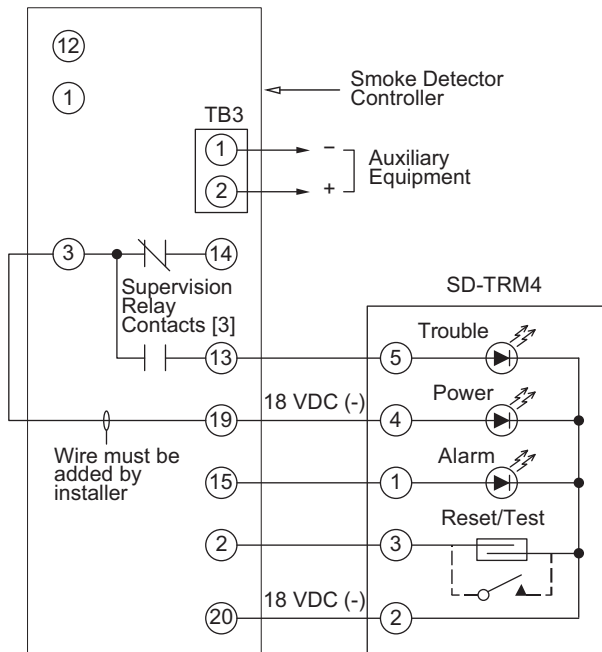

Fig. 58 — Remote Test/Reset Station Connections
The test/reset station dirty sensor test checks the test/reset station’s ability to initiate a sensor dirty test and indicate the results. It must be wired to the controller as shown in Fig. 58 and configured to operate the controller’s supervision relay. For more information, see “Dirty Sensor Test” on page 39.
1. Verify that the remote test/station is wired as shown in Fig. 58. Repair or replace loose or missing wiring.